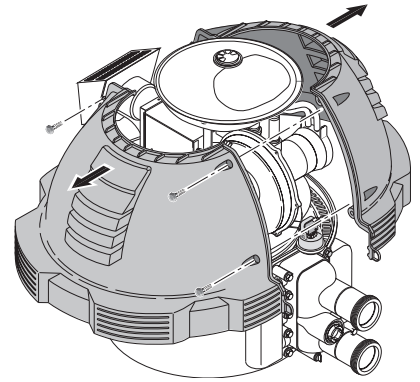

Figure 37.
- Remove the jacket cover(s) by unfastening the screws connecting both halves of the top jacket, see Figure 37.
- Remove the jacket cover(s), see Figure 37.